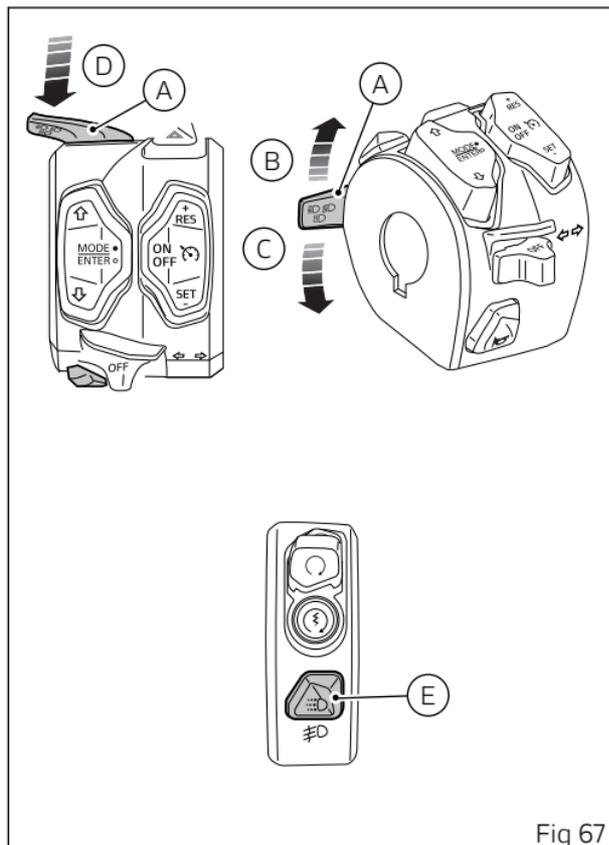

Fig 67
When the DRL is set to "Auto" mode, the corresponding warning light (13, Fig 94) will turn on. If the DRL was set to "Auto" mode, press button (E, Fig 67) to disable that mode and set manual light management. Press again button (E, Fig 67) to re-enable DRL but with control strategy set to "Manual".
To switch on or off the DRL lights, it is necessary to press button (E, Fig 67).
- if DRL lights are present, press and hold button (E, Fig 67) for a long time;
- if DRL lights are not present, press button (E, Fig 67).